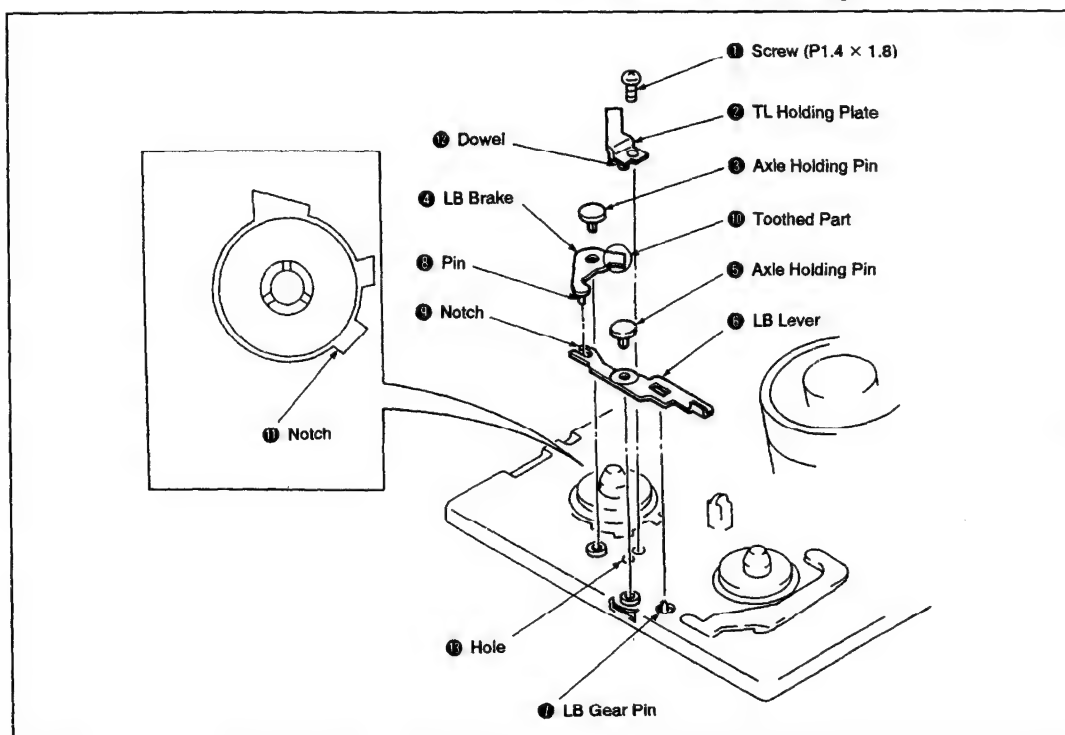

Fig. 3-5.
1. Removal (See Fig. 3-5.)
2. Installation (See Fig. 3-5.)